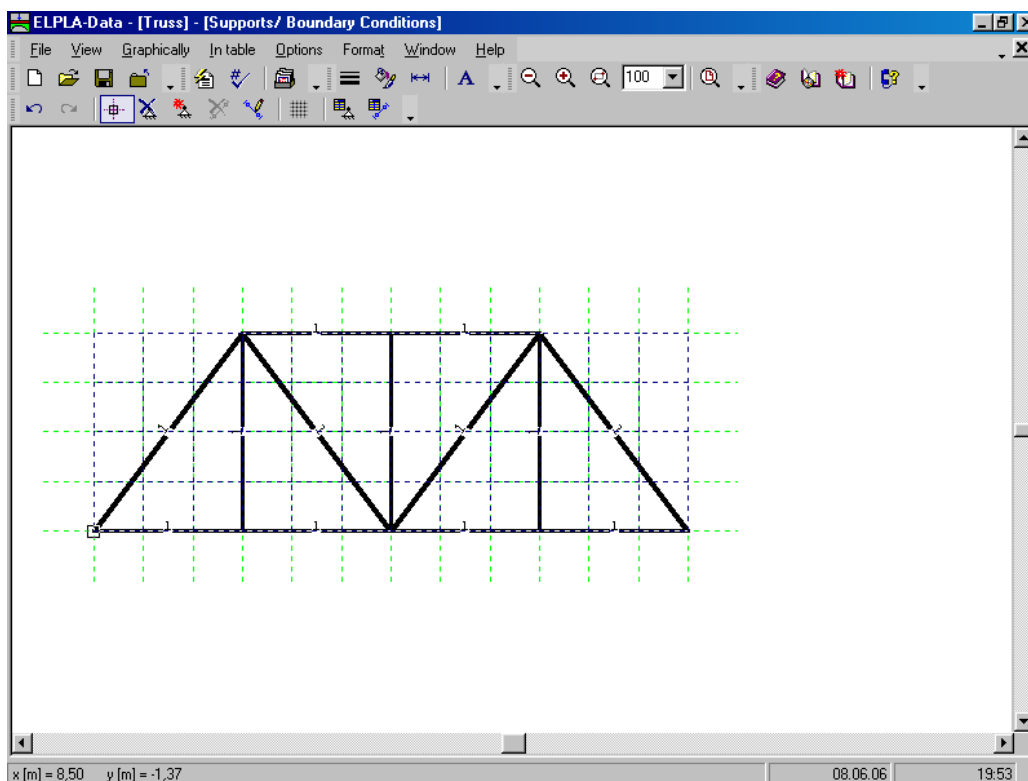
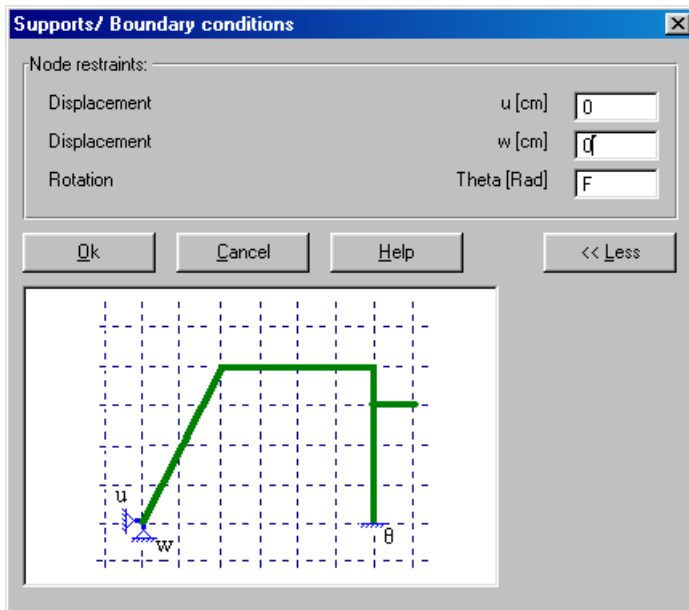

Figure 6-21 Selection of hinged support node
Figure 6-22 "Supports/ Boundary conditions" dialog box
- Click the left mouse button on nodes that have hinged supports as shown in Figure 6-21
- Choose "Add boundaries" command from "Graphically" menu in Figure 6-21. "Supports/ Boundary conditions" dialog box in Figure 6-22 appears